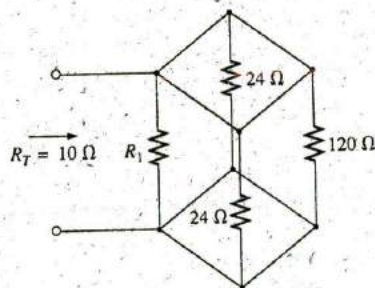

FIG. 6.78
*8. Determine R_1 for the network in Fig. 6.78.